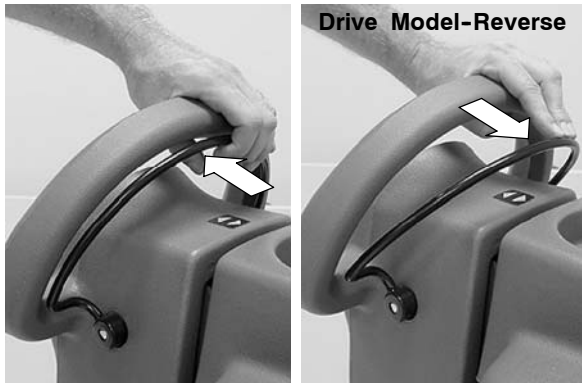

FIG. 18
5. Pull the activation bail towards you to start scrubbing (Figure 18). The drive model will automatically propel forward. To reverse the drive model, simply push the activation bail forward.